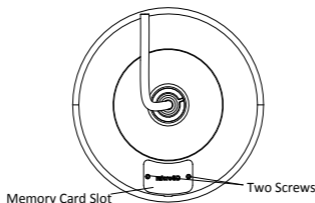

Figure 2-12 Unscrew the Screws
1. Unscrew the two screws on the memory card slot cover on the top of the camera, as shown in Figure 2-12, and remove the memory card slot.